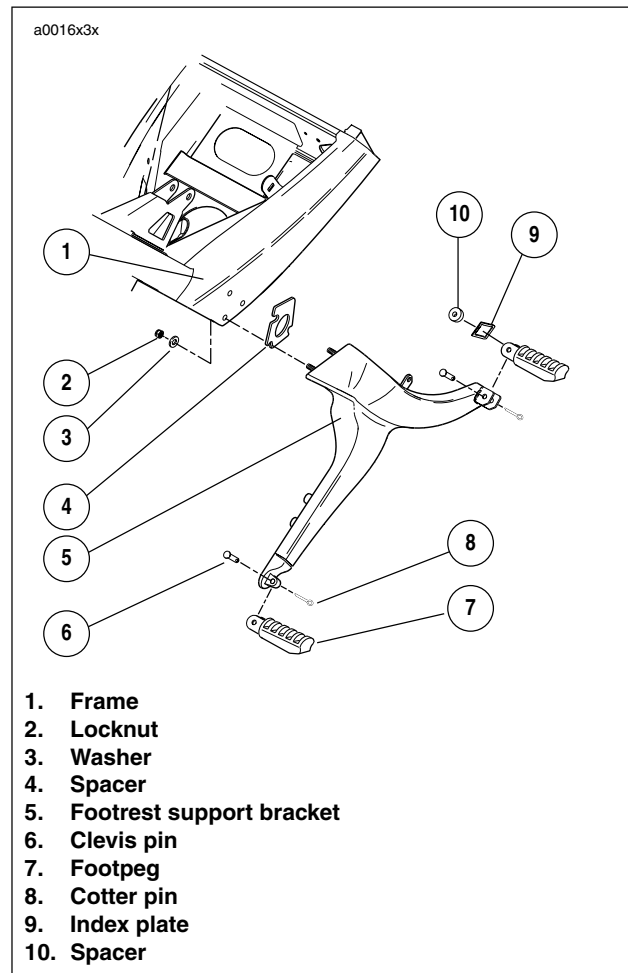

Figure 3-33. Footpeg Bracket Assembly
22. See Figure 3-33. Install right side rider footpeg bracket assembly. See 2.21 FOOTPEGS AND FOOTPEG SUPPORT BRACKETS.